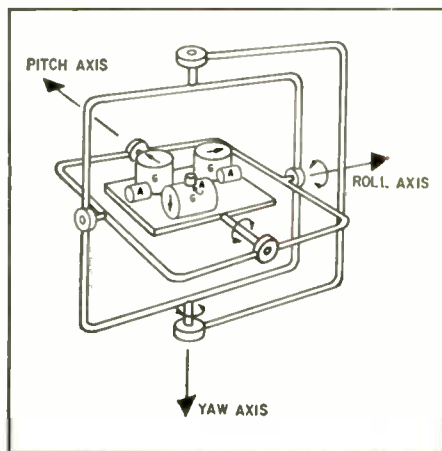

Fig. 1—Heart of inertial-guidance system is gimballed platform with three gyros.
The heart of the inertial system consists of the *stable platform*, also known as the *inertial reference unit* (IRU), or the *inertial measuring unit* (IMU). The platform is a three-axis gyro system. It establishes a stable element to which the accelerometers are mounted. Fig. 1 shows how the three gyros (G) and three accelerometers (A) are suspended by the innermost member of a gimballed support framework. Gimbals permit the gyro assembly to tilt freely in any direction. Axes of the gyros and accelerometers coincide to make a kind of artificial horizontal/vertical frame of reference against which spacecraft motion is measured and computed.